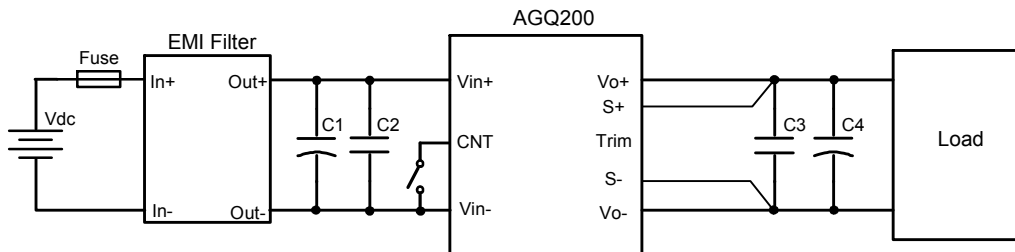

Figure 11 Typical application
Figure 5 Dynamic response for 25% load step (25% ~ 50% ~ 25%) and 0.1A/μs slew rate, (0.5ms/div), see Figure 11 for test configuration; CH1-output voltage (100mV/div); CH2-output current (20A/div)
Figure 6 Dynamic response for 25% load step (50% ~ 75% ~ 50%) and 1A/μs slew rate, (0.5ms/div), see Figure 11 for test configuration; CH1-output voltage (200mV/div); CH2-output current (20A/div)
- C1 ~ C4: See Figure 11